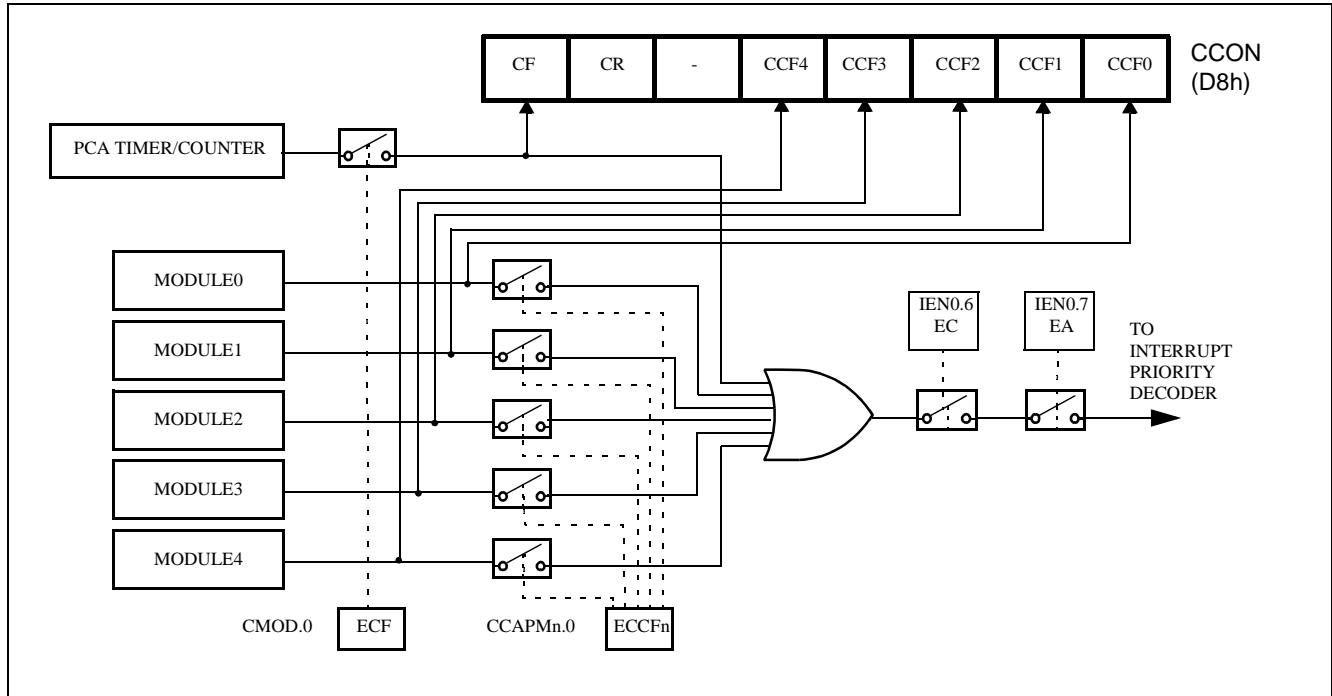

Figure 67: PCA Interrupt System
The CCON SFR contains the run control bit for the PCA (CR) and the flags for the PCA timer (CF) and each module (CCF4:0). To run the PCA the CR bit (CCON.6) must be set by software. The PCA is shut off by clearing this bit. The CF bit (CCON.7) is set when the PCA counter overflows and an interrupt will be generated if the ECF bit in the CMOD register is set. The CF bit can only be cleared by software. Bits 0 through 4 of the CCON register are the flags for the modules (bit 0 for module 0, bit 1 for module 1, etc.) and are set by hardware when either a match or a capture occurs. These flags can only be cleared by software. All the modules share one interrupt vector. The PCA interrupt system is shown in Figure 67.
The ECCF bit (from CCAPMn.0 where n=0, 1, 2, 3, or 4 depending on the module) enables the CCFn flag in the CCON SFR to generate an interrupt when a match or compare occurs in the associated module (see Figure 67).